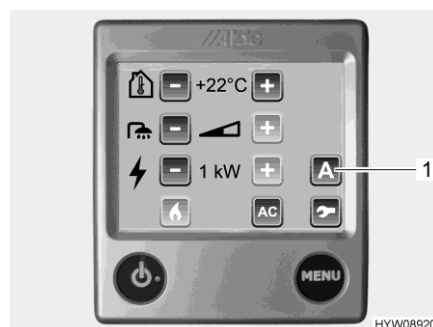

Fig. 128 Adjustment menu (auxiliary fan)
The auxiliary fan is controlled via the operating unit (Fig. 128) of the hot-water heater.
- Press "A" button (Fig. 128,1). The functions will be displayed.